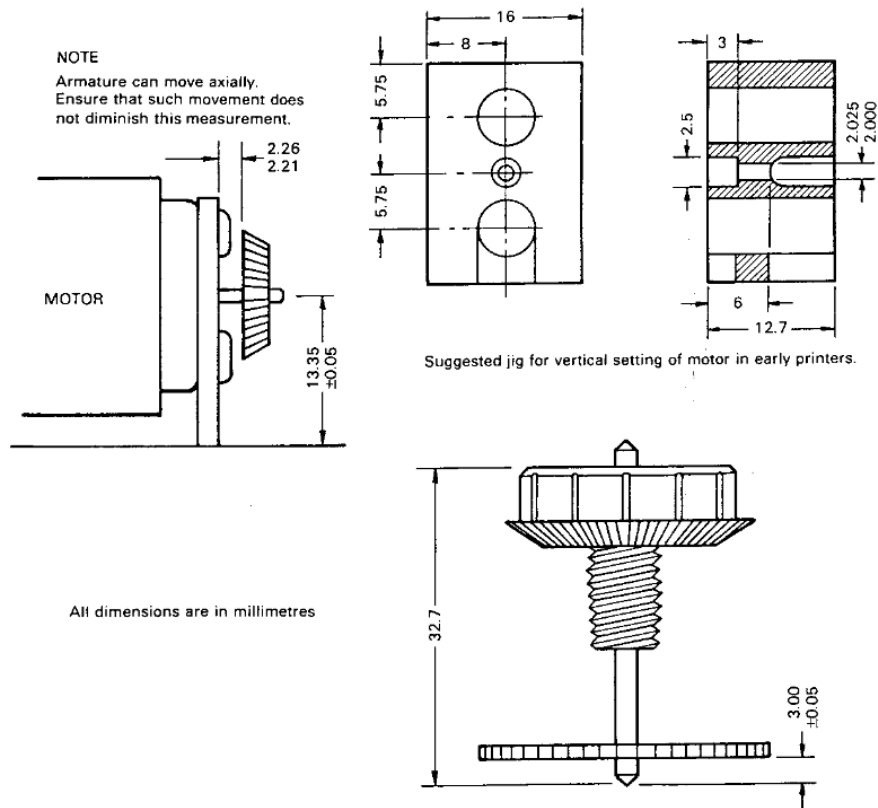

Figure 4 Setting Up Drive Train
- b) (b) Position the motor on its mounting flange with the orientation mark (on the terminal end of the motor) at the outside, and insert the two attachment screws. If the printer is of the later design, the screws may be tightened fully at this stage. If the printer is of the earlier pattern, the vertical height of the motor must be set as shown in Figure 4; it may be advantageous to manufacture the jig shown in Figure 4 to ensure accurate setting of the motor before the screws are tightened.
If a spacer is not available, set the bevel pinion clearance as shown in Figure 4.